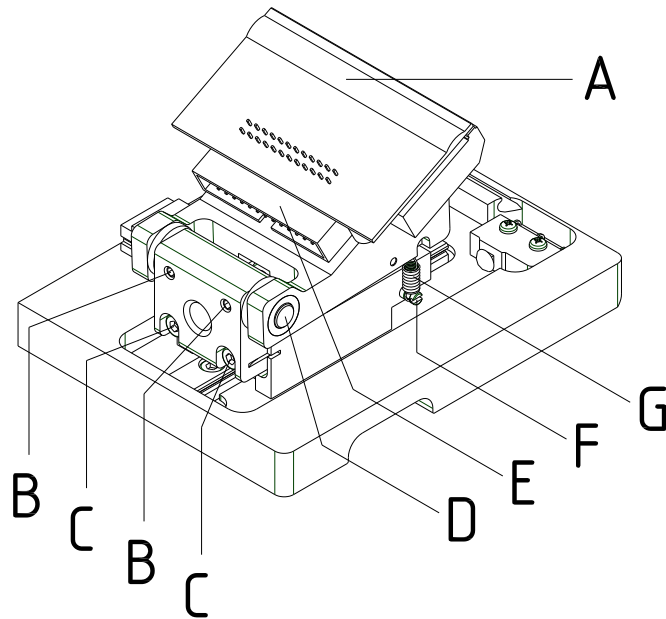
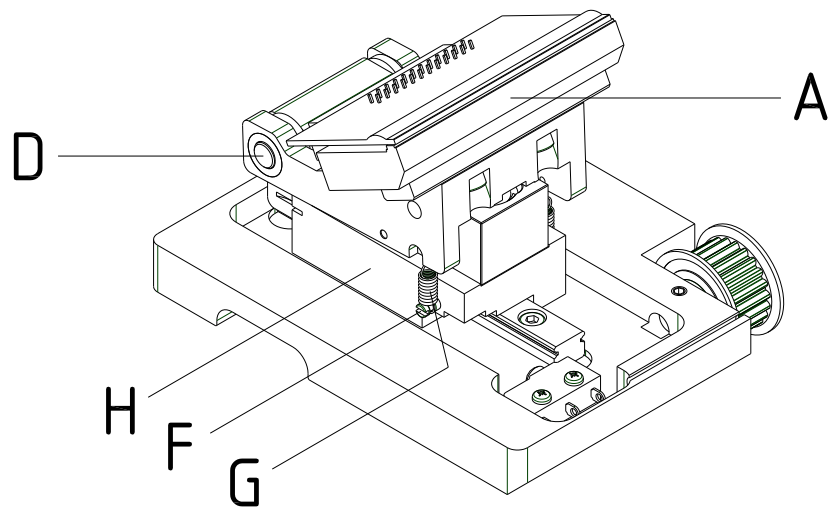

Figure 14
Figure 15
2. Push both tension springs (G) with a tweezers from the spring pillars (F, Figure 14).
3. Remove the printhead cable (E, Figure 14) from the printhead (A, Figure 14).
4. Remove the hexagon socket screws (C, Figure 14).
7. Carry out the necessary service work, e.g. replace springs (G) or printhead support.
The component can be fractionized further in its individual parts. For this, unscrew the headless pins (B, Figure 14) and remove the printhead shaft (D).
When installing take care on parallelism of the slots next to the screws (C, Figure 14) to the slots in the guiding carriage (H, Figure 15). After removing the screws (P) the printhead (A) can be removed (see chapter 1.1, page 23)